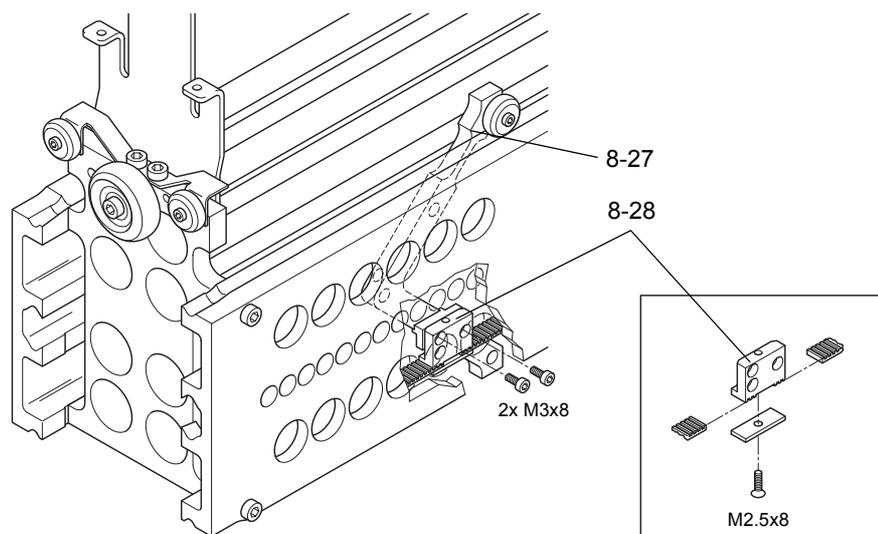

Figure 6-76 Belt lock removal
- 4 Refer to Figure 6-76, 'Belt lock removal':